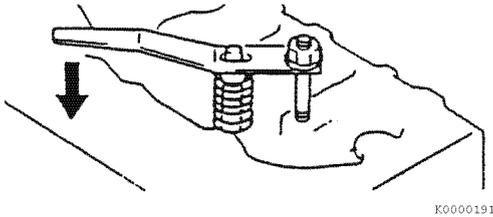

Figure 6-14
3. Using the valve spring compressor tool, compress one of the valve springs (**Figure 6-14**).